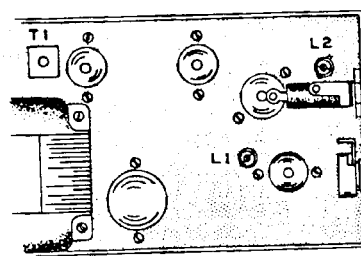

Figure 2
- () Referring to Figure 2, use the prepared alignment tool to turn the slug of coil L2 counterclockwise until it is just snug.
- () Referring to Figure 2, use a small fiber screwdriver alignment tool and very carefully turn the slug at the top of T1 for maximum height of the IF signal pip.
- () Referring to Figure 2 (Page 38), use the prepared alignment tool to turn the slug of coil L2 counterclockwise until it is snug.